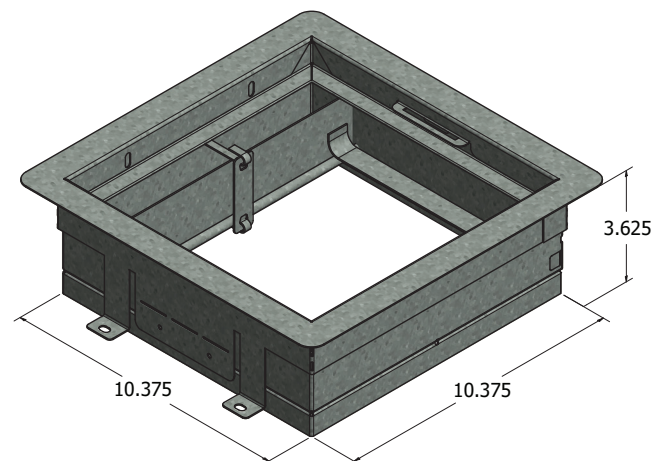

Figure 2: Isometric view of a CRD-300WT damper with installation bracket.
5. Next, install (4) 2" x 4" wood boards vertically to the Truss Assembly 12" OC for mounting the SP-AP fan assembly.
6. Using the height dimension of 3.625" (distance from bottom edge of installation bracket to edge of CRD to be flush drywall, see figure 2), measure and mark the 2" x 4" wood boards where bottom edge of the installation bracket is to be installed.
7. Secure one side of the SP-AP Installation bracket assembly by fastening (2) captured self-tapping screws to the 2" x 4" woods boards referencing the mark made in step 6.
8. Extend the SP-AP Installation Bracket to the required distance referencing marks made in Step 6. Secure using (2) captured self-tapping screws.
9. Mount adapter to the expandable mounting bracket using (2) self-tapping screws provided tapped to duct adapter.
13. Secure the plaster flange onto the fan/CRD assembly by fastening the (4) self-tapping screws provided into the Tinnerman clips installed in step 2.
15. Install the wire retaining bracket with the remaining (1) self-tapping screw.